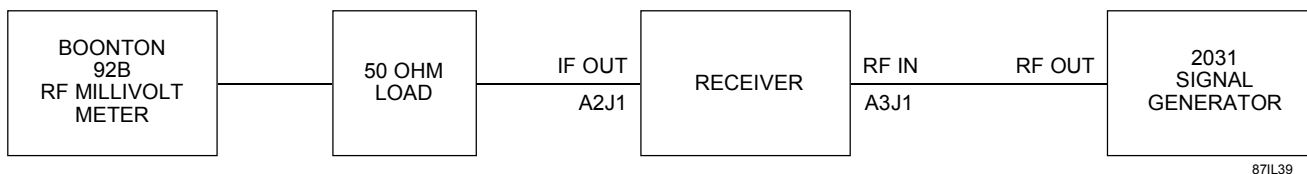

Figure 7-8. Reconstructed IF Output Performance Test Equipment Connection
1. Connect the WJ8711A Receiver and test equipment as illustrated in **Figure 7-8**.